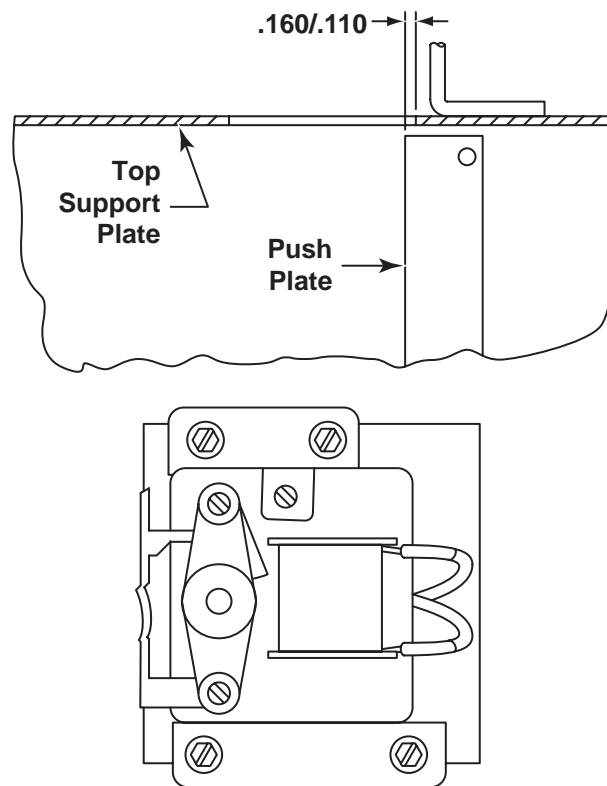

Figure 3-8. Pusher Plate Adjustment
2. Loosen the four mounting screws holding the motor plate as shown in *Figure 3-8*.
5. Move the pusher plate out by prying on the top end of the pusher plate with a small screw driver until it is approximately 1/8 inch past the hole in the top support plate as shown in *Figure 3-8*.